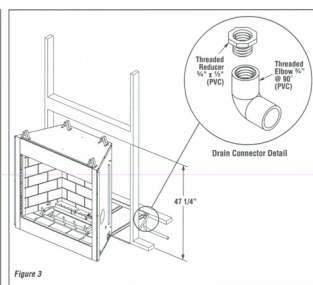

Figure 3
**Step 1.** Seal all joints, gaps and corners around the bottom of the drain pan before positioning the fireplace on its location (Figure 3).